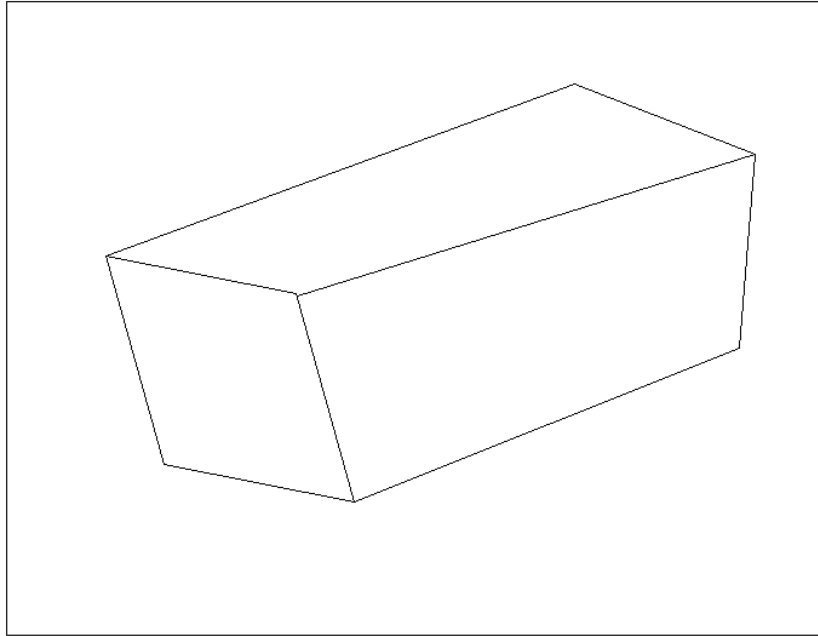
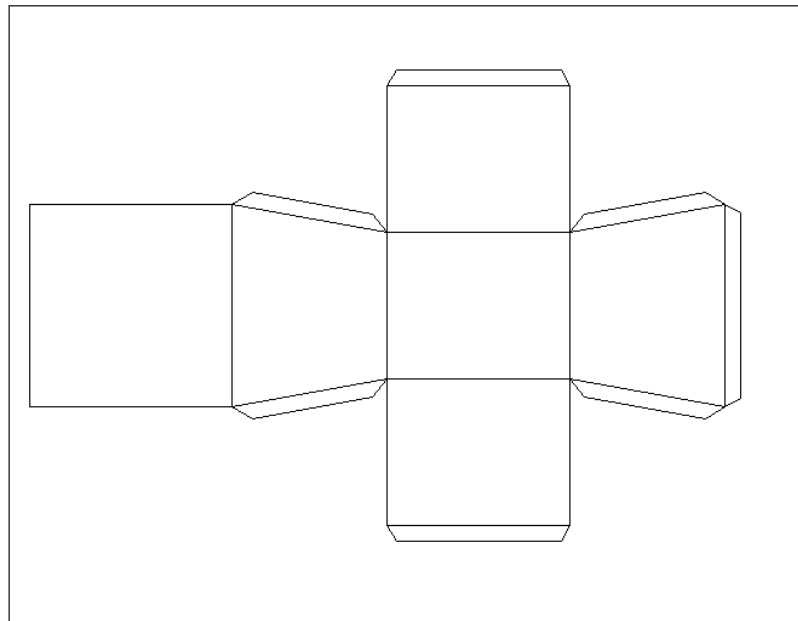

Figure 13.2a
Figure 13.2b
5. Once your design for the arch is complete, you may enlarge it on a copy machine or transfer it to a larger scale for actual construction. All you actually need is one voussoir pattern, separated from all the rest, since all copies will be exactly the same. Once you have done this, you must use this piece—actually a front panel—to design a kind of “box” which will become a three-dimensional voussoir. You must not only add a corresponding back panel, but a top, bottom, and two sides. A sketch is provided in **Figure 13.2a**, with a fully laid out net in **Figure 13.2b**.